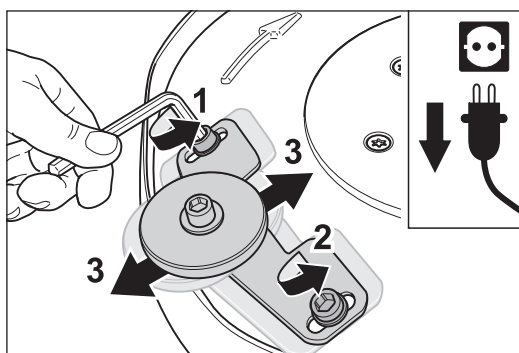

Fig. 29 Undo the screws on the wall-protecting roller bracket (1 + 2) and move the wall-protecting roller bracket (3).
You can also increase the adjustment distance of the wall-protecting roller by undoing the two screws with which the wall-protecting roller bracket is fastened to the attachment (fig. 29, 1 + 2).
- 3 Move the wall-protecting roller bracket into your desired position (fig. 29, 3) and then tighten the screws again.